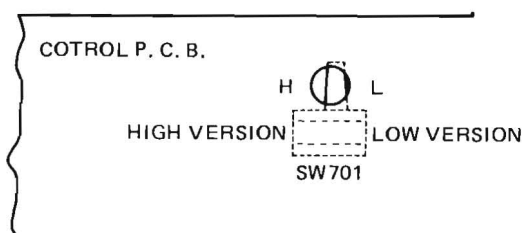
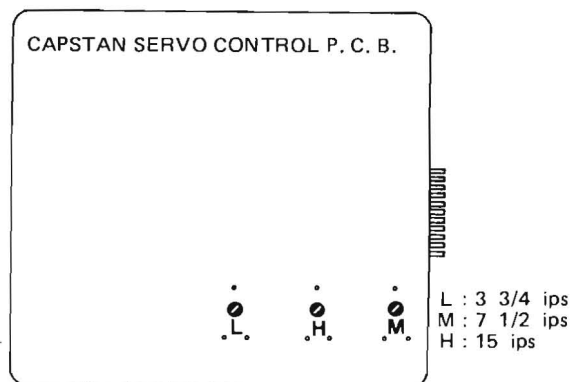

Fig. 5-2 Location of Tape Speed Conversion Switch
Fig. 5-3 Capstan Servo Control P.C.B.
- (1) Remove the 6 screws attaching the rear panel to the tape deck. Remove the panel.
- (2) Remove the 4 allen screws that hold the right side panel to the frame. Remove the panel.
- (3) The speed selection switch is located on the big P.C.B. Ass'y as illustrated Fig. 5-2.
- (4) Slide the switch to L for 7-1/2 and 3-3/4 or H for 15 and 7-1/2 ips.
- (5) Put a speed reference tape for the speed selected on the transport.
- (6) Play the tape and measure the frequency of the output signal with a frequency counter.
- (7) Adjust the appropriate pot on the servo P.C.B. Ass'y near the capstan motor, as illustrated Fig. 5-3, to obtain the reference speed frequency.
- (8) Re-install the side and rear panels.
- (1) Remove the 4 screws marked A from the bottom panel and remove the bottom panel (marked B).
- (2) Remove the 2 screws marked C in Fig. 5-2. Also remove the 2 screws marked D.
- (3) Referring to Fig. 5-2, the location of all the pots and switches are illustrated and are explained in the list following.